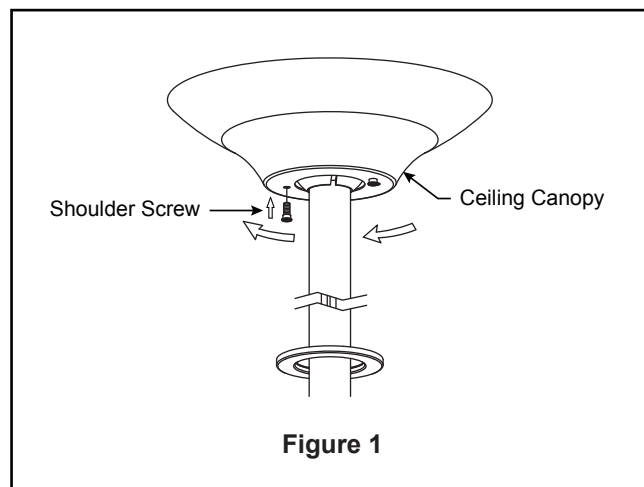

Figure 1
1. Assemble canopy by rotating key slot in canopy over shoulder screw in hanger bracket, taking care not to pinch the wires. Fully assemble and tighten second shoulder screw that was previously removed, then tighten the other shoulder screw. (Figure 1)